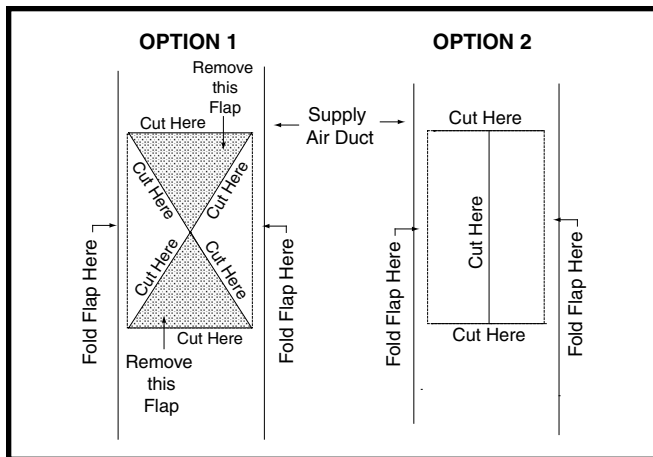

Figure 11. Narrow Air Duct Openings
1. Score and cut the top of the supply air duct as indicated in Option 1 or Option 2. See Figure 11 \(page 10\).